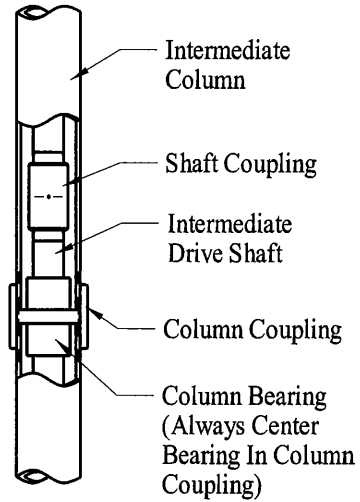

FIGURE 4.
10. Follow the same procedure for all intermediate column and shaft assemblies as shown in Figure 4. Be sure the column bearings are threaded to the couplings and centered in the couplings.